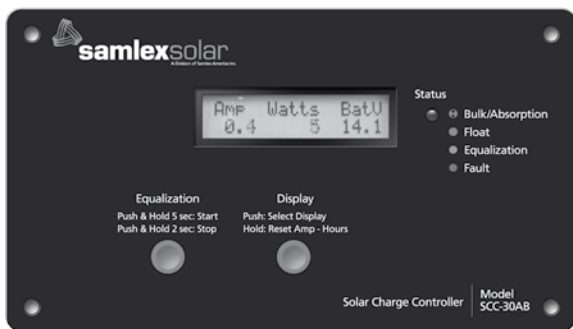
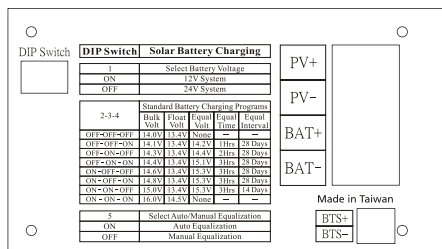

Fig. 5.1. Front Panel of SCC-30AB
Fig. 5.2. Back view of SCC-30AB
SCC-30AB is designed for flush mounting on a wall / panel. The controls and indications are built on the Front Panel face plate that has 4 countersunk holes for flush mounting (Fig. 5.1). All the electronics, DIP switches for settings, terminal strip for connections for the PV Array and the Battery and terminal for the optional Battery Temperature Sensor (BTS) are mounted on a PCB that is in turn mounted at the back of the face plate (Fig. 5.2). For flush mounting on the wall / panel, a suitable cutout is required to be made in the wall / panel to accommodate the PCB at the back of the unit. As the components at the back of the unit will be hidden and protected behind the wall / panel, the components at the back of the unit are exposed and do not have a protective cover. **PLEASE HANDLE THE UNIT CAREFULLY TO PREVENT ANY DAMAGE TO THE EXPOSED COMPONENTS AT THE BACK OF THE UNIT.**
The back of the unit (Fig 5.2) has the following input / output connections and DIP Switches for various settings.
3. The connections to the SCC-30AB terminals are shown in the drawing at Fig. 5.2. A barrier type of Terminal Strip has been provided for connecting the PV array and the battery. M-4 screws with clamping washers are used to make the connection. A flat or a #2 Philips head screw driver may be used to tighten these screws. Tighten each terminal clamping screw to 20 inch-pounds of torque. The distance between the barriers is 9 mm and a standard Spade Type of terminal lug meant for # 8 Stud and AWG #10 – AWG #12 wire may be used at the end of the wires to be connected to these terminals. **4 such terminal lugs are provided with the unit for ease of installation.**